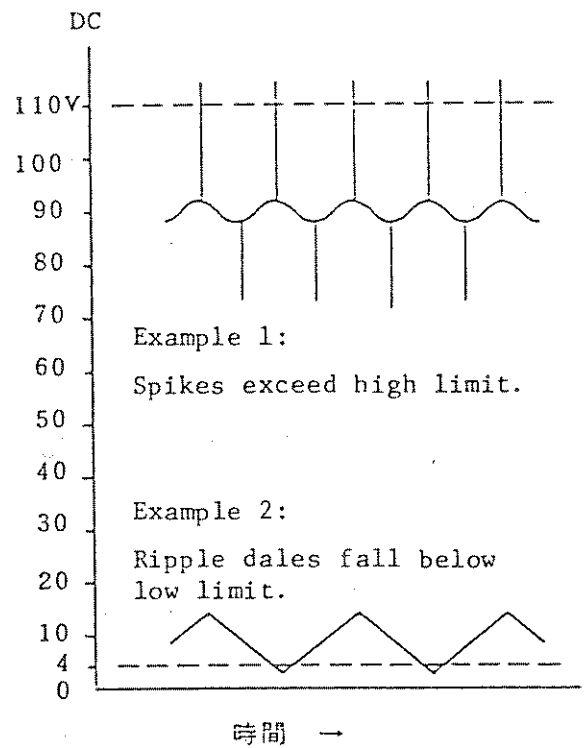

Figure 2-1-2
- o Note that the overvoltage protector or overpower protector may not respond to such very short duration of overvoltage or overpower as may be caused by pulses or ripples superposed on the input voltage. (See Figure 2-1-2.)